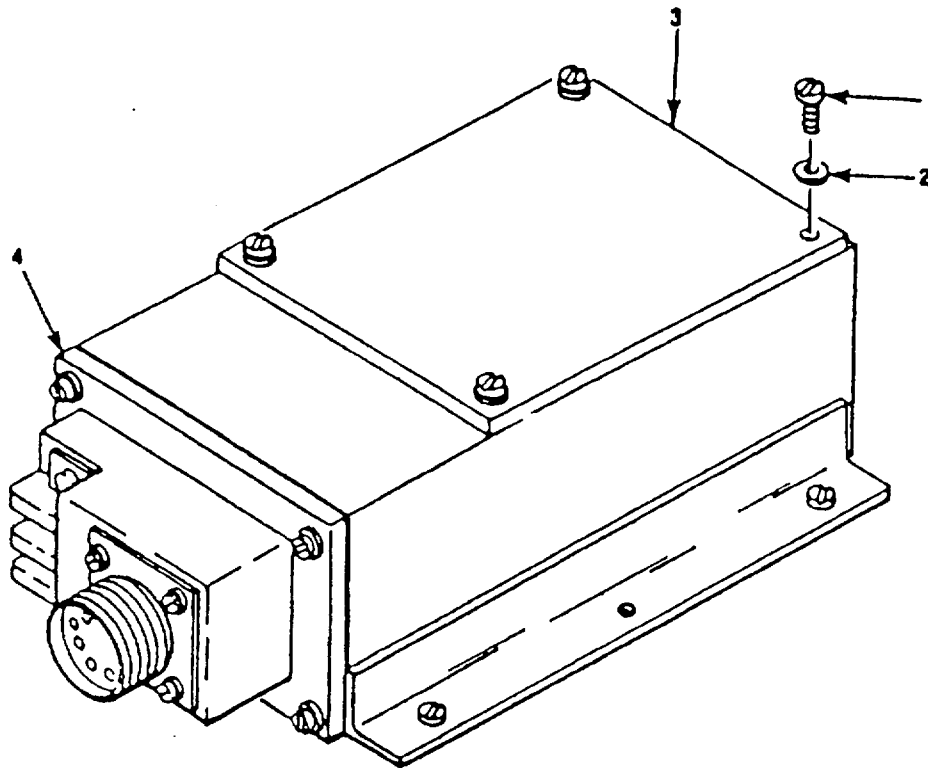
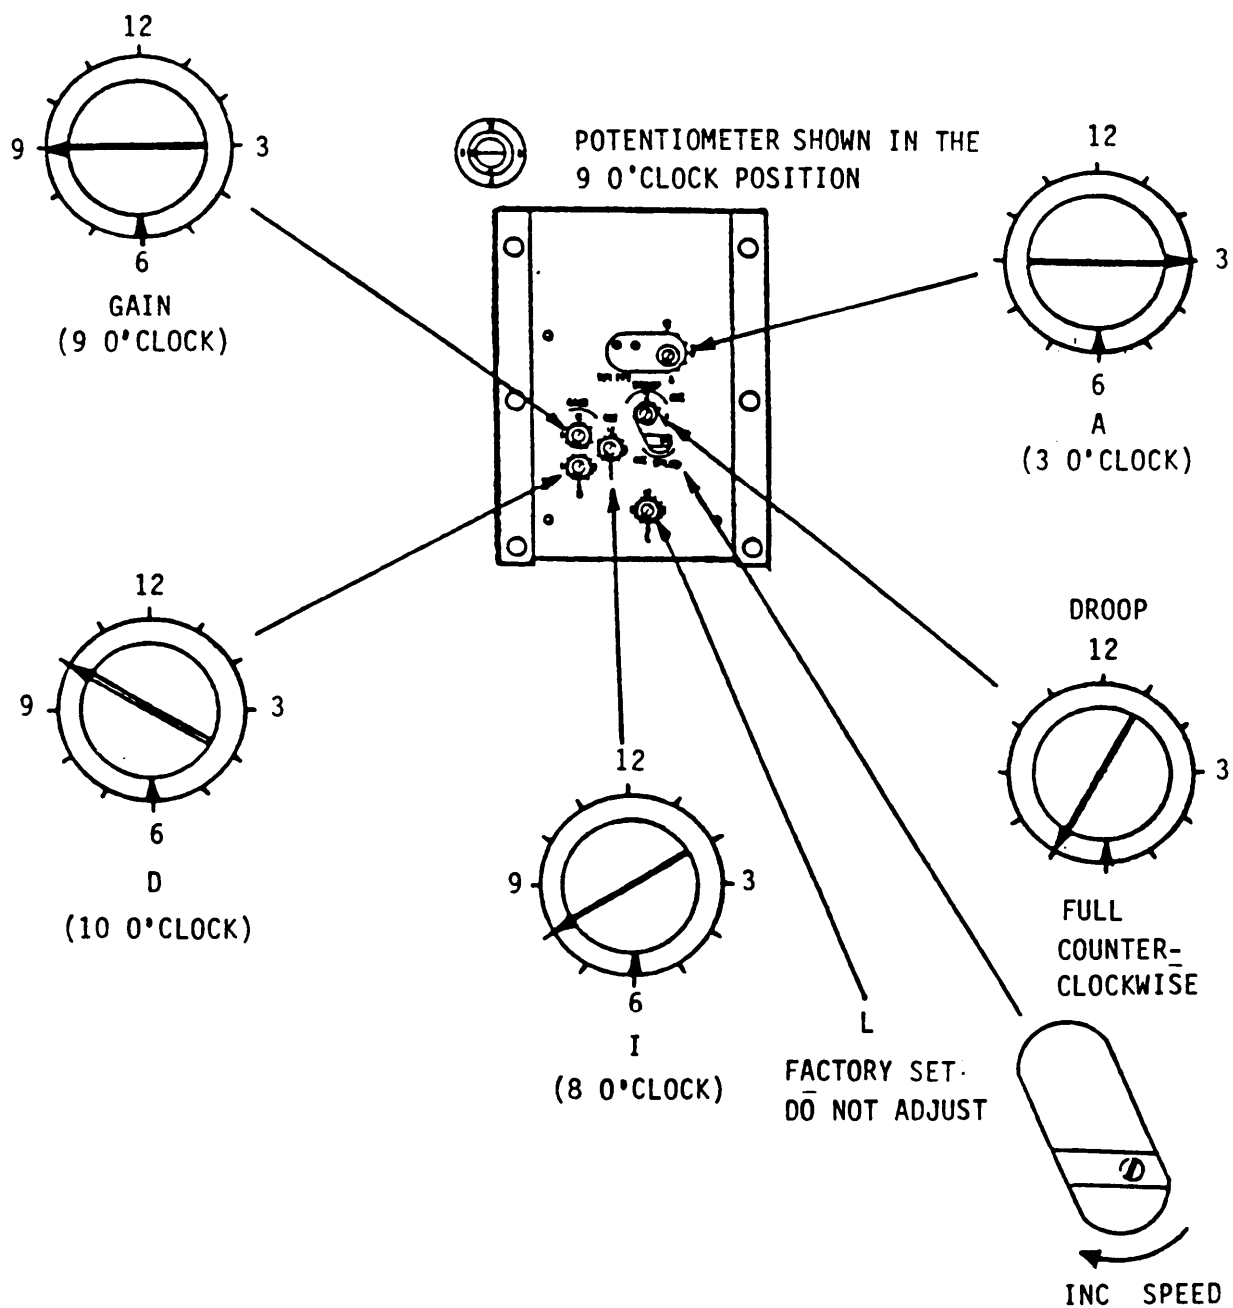

Figure 4-55. Control Box Cover Removal and Installation.
Figure 4-56. Control Box Calibration and Adjustment Controls.
- a. Remove four screws (Figure 4-55,1) and washers (2).
- b. Remove cover (3) from control box (4).
- c. Refer to figure 4-56 and set potentiometer as indicated below:
- g. If after a reasonable time pump fails to take suction, shutdown engine and check suction line for leaks, then repeat steps d, e and f(3) through f(5) .
- h. Refer to figure 4-56 and perform the following adjustments:
- (1) Turn potentiometer "A" slowly clockwise until actuator lever oscillates rapidly. Turn potentiometer "A" slowly counterclockwise until oscillation stops.
- (2) Upset actuator by tapping on actuator lever. If actuator lever oscillates rapidly, turn potentiometer "A" slowly counterclockwise until oscillation just stops.
- (3) If actuator lever is unstable (hunting), turn GAIN potentiometer slowly counterclockwise until stable. Slight movement of lever with a constant engine speed indicates normal speed governing is occurring and not hunting.
- (4) Upset actuator lever by tapping on lever. Engine should return quickly to its regulator speed without hunting.
- (5) Turn potentiometer "D" clockwise until actuator lever begins to hunt. Actuator lever may have to be tapped to start hunting
- (6) Turn potentiometer "D" slowly counterclockwise until engine is stable.
- (7) Turn Mode Selector to MANUAL position and rotate Manual Speed Control to mid-range.
- (8) Rotate Manual Speed Control to HIGH and quickly move Mode Selector to AUTO position.
- (9) Engine speed must not overshoot its maximum speed of 2400 RPM. If speed exceeds 2400 RPM, rotate potentiometer "I" counterclockwise.
- (10) Repeating step (8) and (9) until engine no longer overshoots its maximum speed.
- (11) Place Mode Selector to MANUAL position and rotate Manual Speed Control to LOW position.
- (12) Check Idle speed for 800 RPM. If not 800 RPM adjust SPEED potentiometer until 800 RPM is indicated.
- j. Install control box cover (figure 4-55, 3), washers (2), and screws (1).